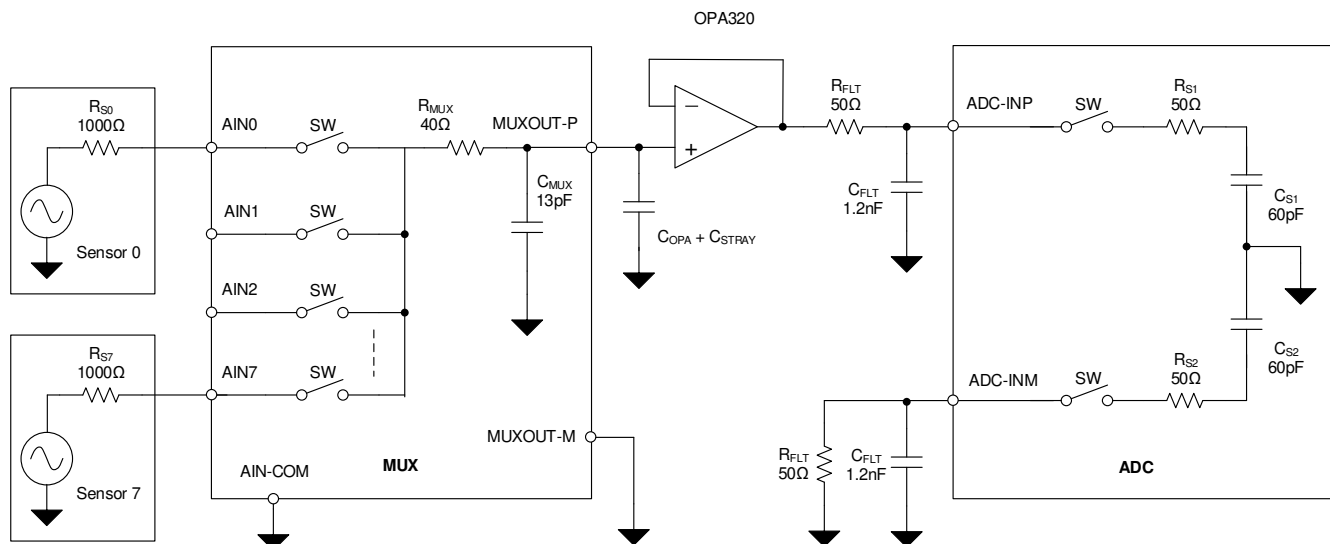
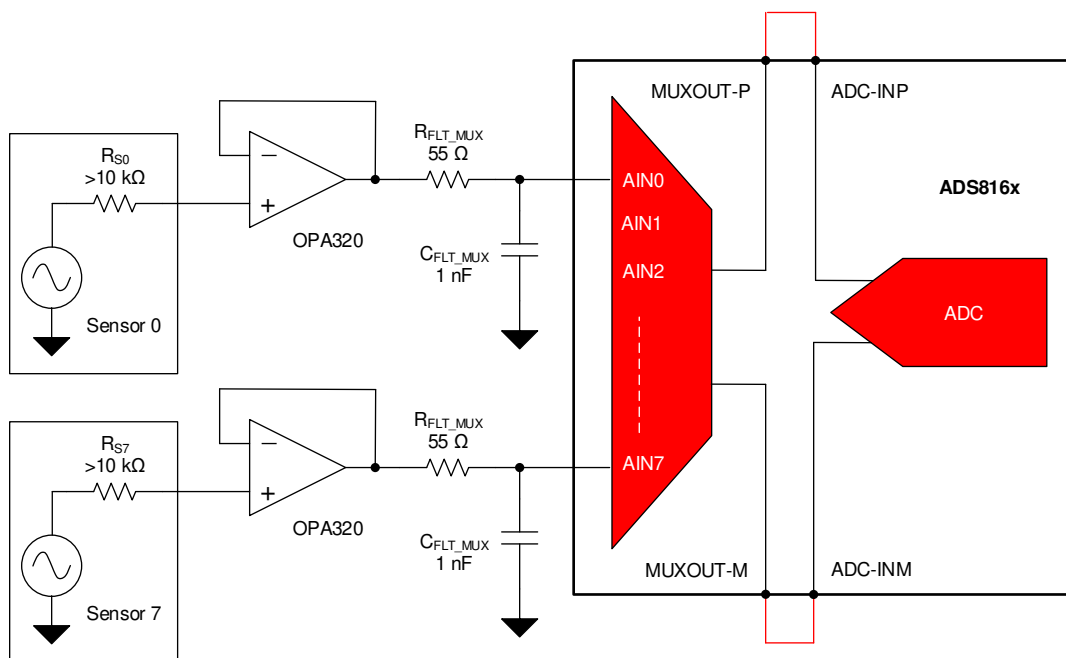

Figure 8-2. Direct Sensor Interface With the ADS816x in an 8-Channel, Single-Ended Configuration
Figure 8-3. High Output Impedance Sensor Interface
When connecting the sensor directly to the input of the ADS816x, the maximum switching speed of the multiplexer is limited by multiplexer on-resistance and parasitic capacitance. Figure 8-2 illustrates the source resistance (R_{S0} , R_{S1} , and so forth), multiplexer impedance (R_{MUX}), multiplexer capacitance (C_{MUX}), op amp input capacitance (C_{OPA}), and the stray PCB capacitance at the output of the multiplexer (C_{STRAY}). In this example, the total output capacitance is the combination of the multiplexer output capacitance, the op amp input capacitance, and the stray capacitance ($C_{MUX} + C_{OPA} + C_{STRAY}$) = 15pF. When switching to a channel, make sure this capacitance is charged to the sensor output voltage with the source resistance and the multiplexer resistance ($R_{S0} + R_{MUX}$).
Figure 8-3 shows that the multiplexer inputs are driven using an amplifier. The multiplexer outputs are connected to the ADC inputs directly. For best distortion performance, place an amplifier between the multiplexer and the ADC as shown in Figure 8-2.
- Select an input amplifier for rapid settling when the multiplexer switches channels. This selection is covered in the Multiplexer Input Connection section. The OPA320 buffer and associated RC filter illustrated in Figure 8-3 meet these requirements.